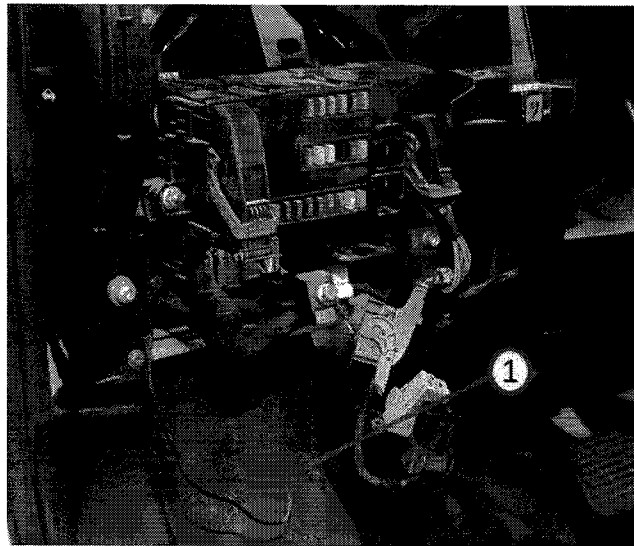

Fig. 13 Overlay Harness BCM Takeout Routing
17. Inside the vehicle, route the leg of the overlay harness containing the YL/BK circuit towards the front of the BCM (See Figure 13).